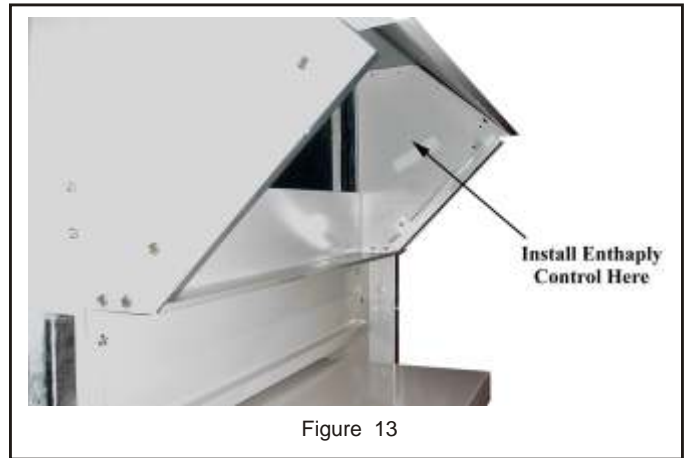

Figure 13
11. Installations using an A7 enthalpy sensor - Remove the screws to the filter access panel of the fresh air hood on the ERS and remove the air filter. Reinstall the A7 enthalpy control sensor with retained screws removed on the bottom panel of the fresh air intake hood. **See Figure 13.**